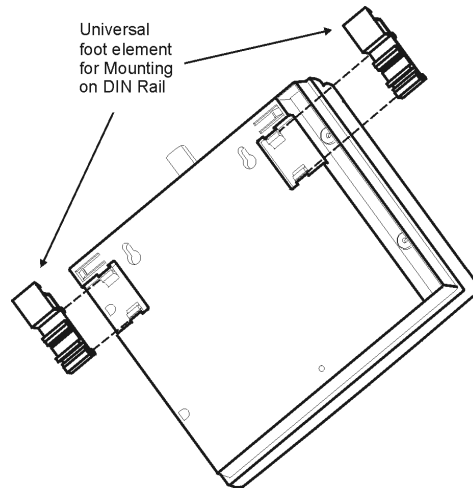
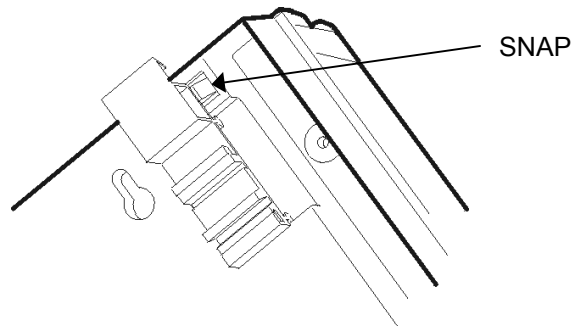

Figure 4
Figure 5
1. Slide the two foot elements into the recesses on the back cover of the unit as shown in Figure 4. Press until they click behind the snaps that secure their placement. (See zoomed image in Figure 5.)